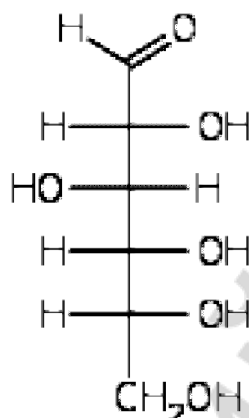

Figure 10.2. Structural formula of linear form of glucose
Glucose is a monosaccharide with formula $C_6H_{12}O_6$ or $H-(C=O)-(CHOH)_5-H$, whose five hydroxyl (OH) groups are arranged in a specific way along its six-carbon backbone. In its fleeting open-chain form, the glucose molecule has an open (as opposed to cyclic) and unbranched backbone of six carbon atoms, C-1 through C-6; where C-1 is a part of an aldehyde group ($-HC=O$), and each of the other five carbons has one hydroxyl group $-OH$. The remaining bonds of the backbone carbons are filled by hydrogen atoms. Therefore glucose is a hexose (consisting of six carbon atoms) and an aldose (aldehyde group possessing), or an aldohexose (figure 10.2).